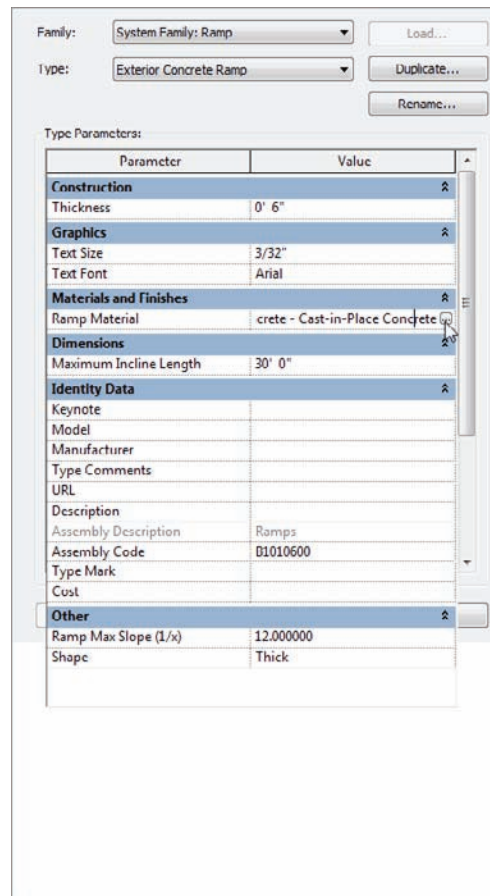

FIGURE 10.83 Modifying the Type Properties
7. For ramp material, click the [...] button and specify Concrete - Cast-In-Place Concrete, as shown in Figure 10.83.